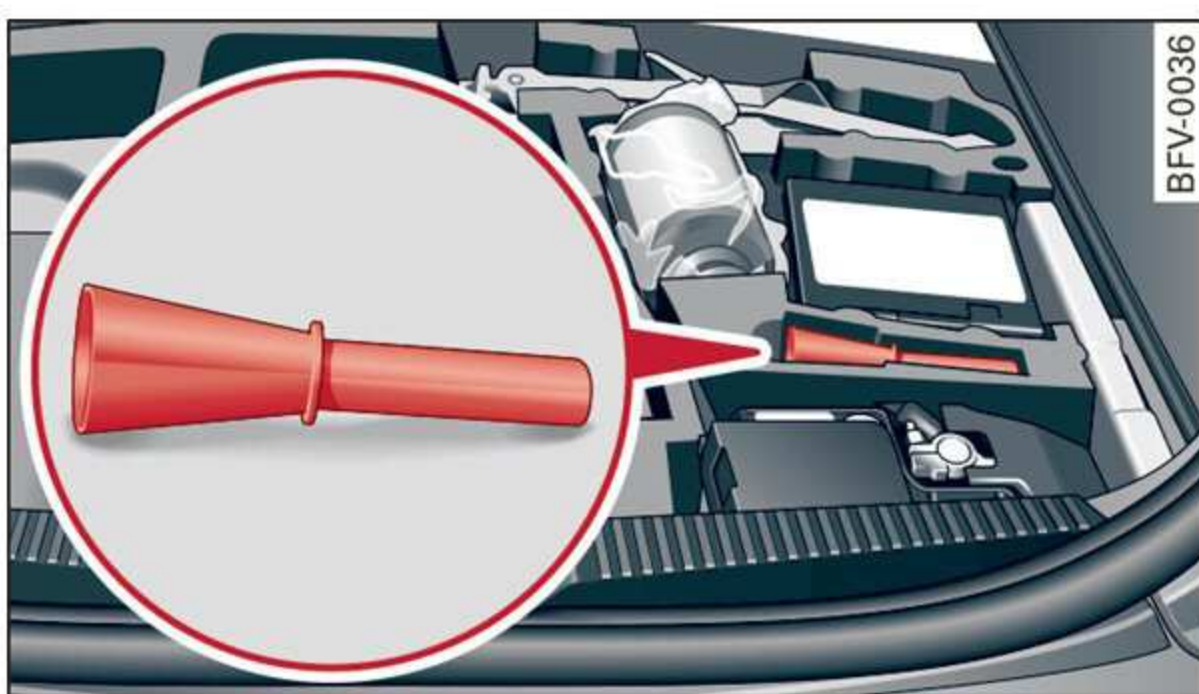

Fig. 168 Luggage compartment: funnel
- The misfueling guard does not open when adding fuel from a fuel container. When refueling with a reserve canister, you must use the funnel stored in the luggage compartment ⇒ *page 226, fig. 168.*